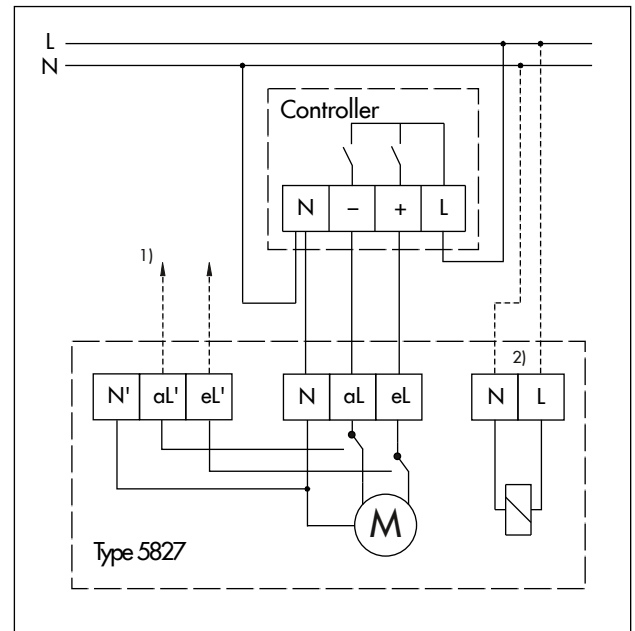

Fig. 10: Electrical connection · Three-step version
- ⇒ Guide the connecting cables through the cable gland into the housing and connect as shown in Fig. 10.